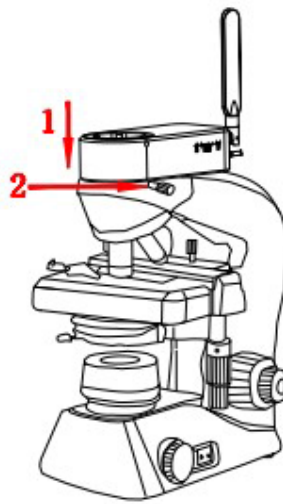

Figure 2
2. Assembly the inWiFi Camera Eyepiece as shown in figure 2